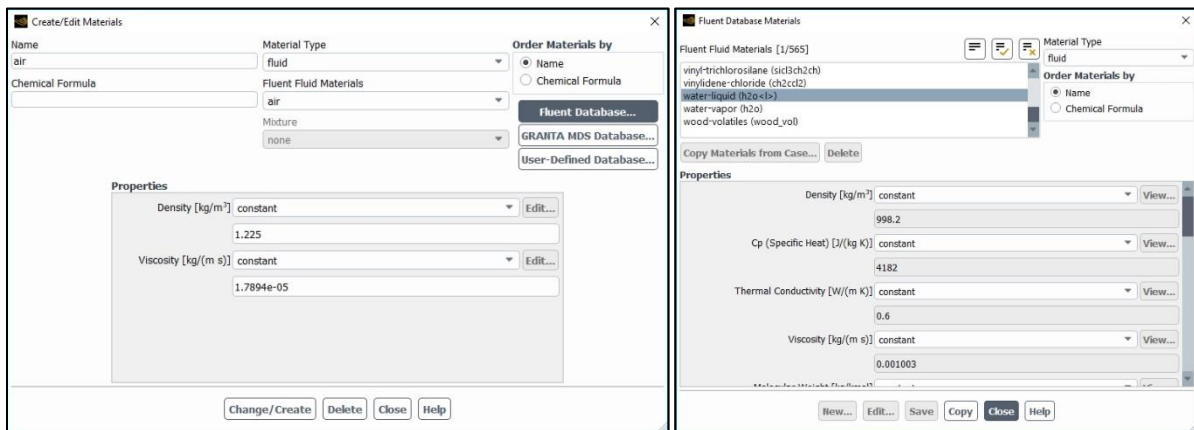
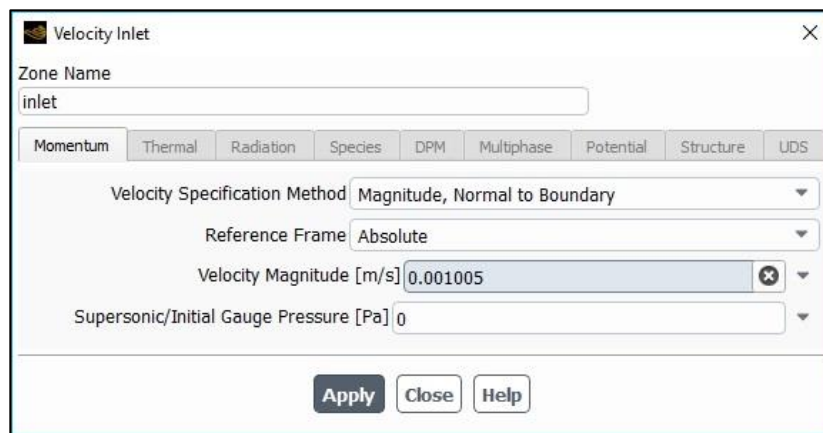

Figure E1-7. Adding a new material from the *Fluent Database*.
Figure E1-10. *Velocity Inlet* dialog box.
- for the *inlet* zone → the *velocity-inlet* boundary condition. We also need to enter the velocity of the fluid at the pipe entrance. In this purpose click *Edit...* and in the *Velocity Inlet* dialog box (Fig. E1-10) enter the *Velocity Magnitude [m/s]* as $w = 0.001005$ [m/s]. This value was calculated from the Reynolds number definition for the specified in the example values of the Reynolds number, pipe diameter and water properties (density and viscosity, Fig. E1-7).